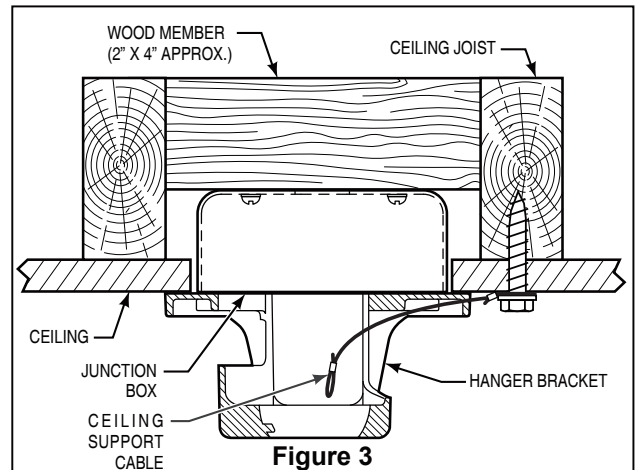

Figure 3
3. Loosen the two set screws in the downrod support of the motor assembly. Route the brown, blue and safety cable wires through the downrod. (Figure 3)
- ☐ 1. Securely attach the hanger bracket to the outlet box using the outlet box screws and washers supplied with the outlet box. (Figure 3)
- ☐ 2. Drill a $\frac{1}{4}$ " pilot hole into the building structure to prevent splitting or cracking with installation of the lag bolt. Using the $\frac{3}{8}$ " x 2" lag bolt and flat washer, attach safety cable to ceiling joist or wood structural member. The lag bolt will pass through the flat washer, safety cable loop, and into the building structure. (Figure 3)
NOTE: Ceiling support cable cannot be secured to junction box only, it must be directly secured to ceiling joist or structural member using the $\frac{3}{8}$ " x 2" lag bolt and flat washer. (Figure 3)